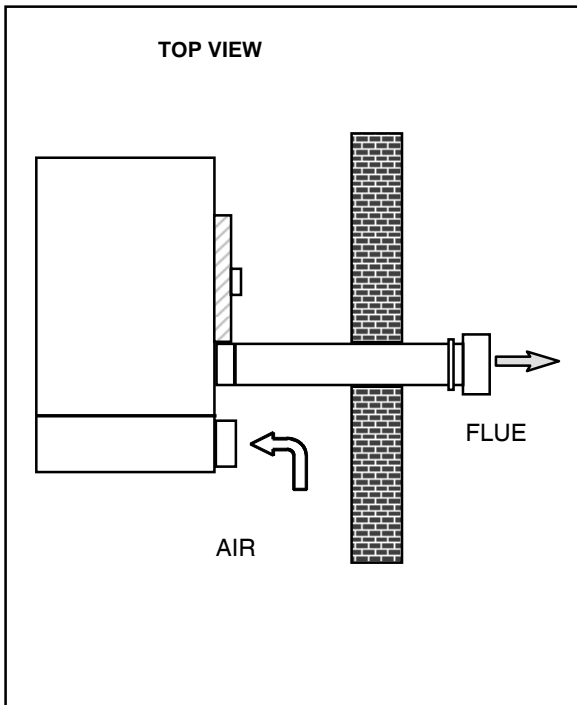

Figure 6
- **B₂₃** type installation, combustion air taken directly from the room and flue exhaust gases to the outside. This exhaust flue duct can be either horizontal or vertical. This type of installation is not sealed regarding the heated room (see figures 6/7).
Table 4 gives the lengths of the air supply and flue exhaust ducts for different types of installation. These values are APPROXIMATE for the types of installation shown on the figures 6,7,8,9,10 and 11.